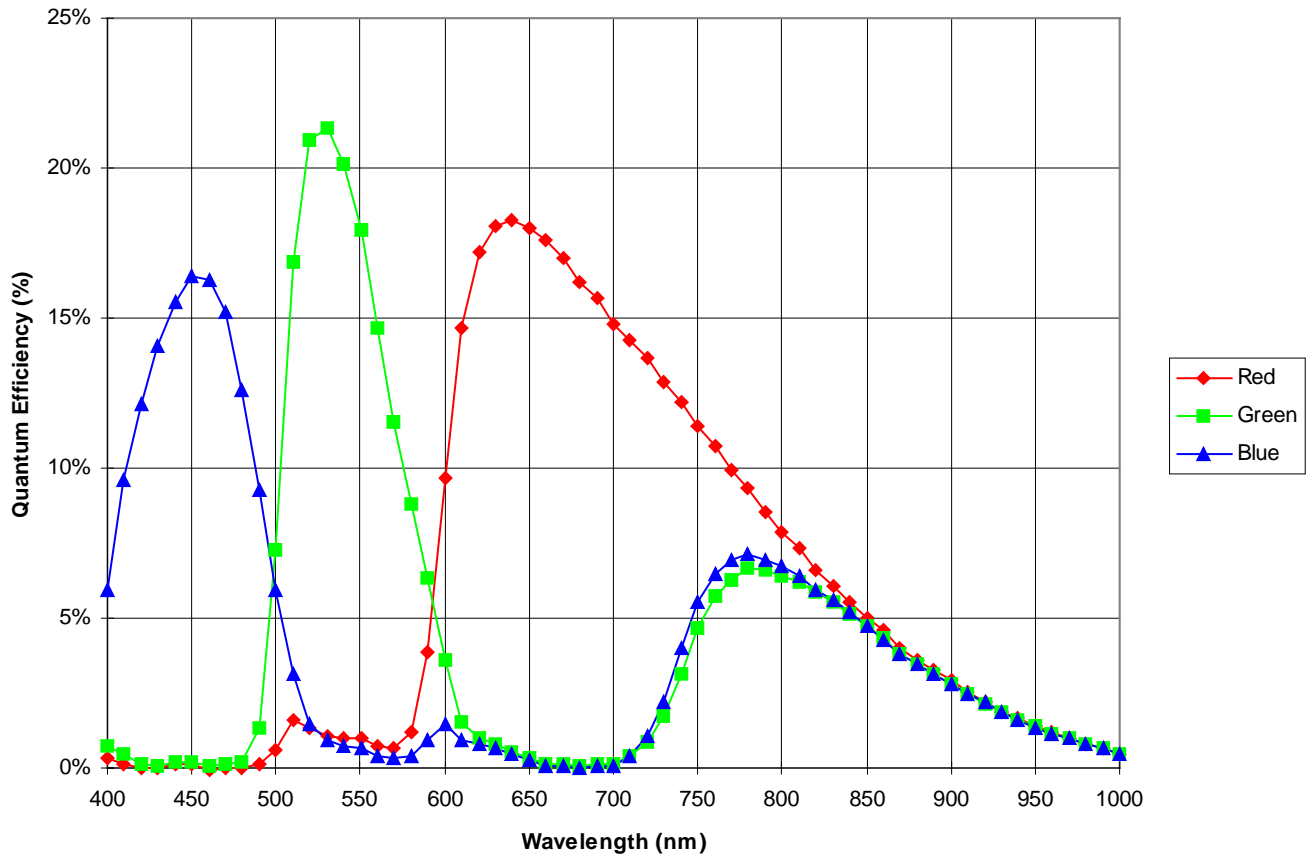

Figure 16 Nominal KAI 1010CM Spectral Response
2. Refer to typical values from Figure 16 Nominal KAI 1010CM Spectral Response.